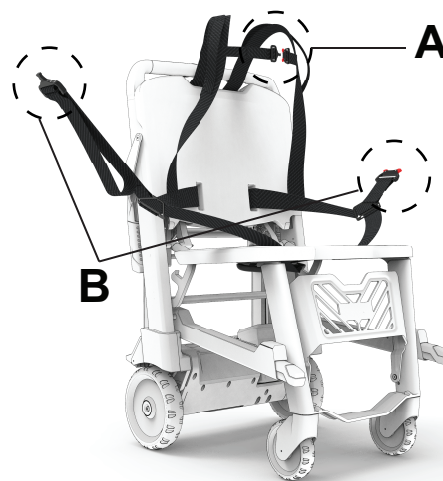

Figure 27 – Buckle the shoulder and waist restraint straps
9. Buckle the shoulder straps (A) at the chest (Figure 27).
10. Pull the waist restraint strap (B) across the patient's lap/waist (Figure 27). Lengthen the restraint strap as necessary.